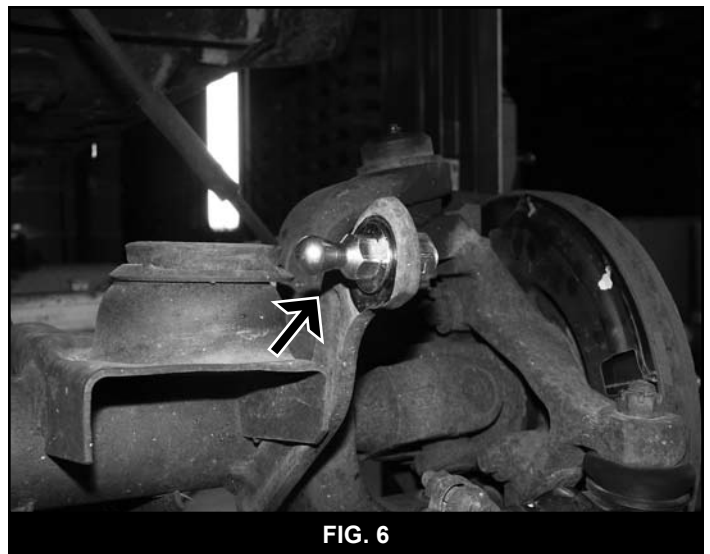

FIG. 6
21. Install the new lower ball stud (01302) to the OE sway bar link axle mount (Fig 6) with a $\frac{1}{2}$ " nut and two $\frac{1}{2}$ " SAE washers (BP 718). The washers mount on each side of the OE mount. The ball mounts toward the inside of the vehicle. Torque nut to 60 ft-lbs. *Note: It may be necessary to clean the axle mount hole of burrs from the OE serrated mounting bolt to provided clearance for the new ball stud.*